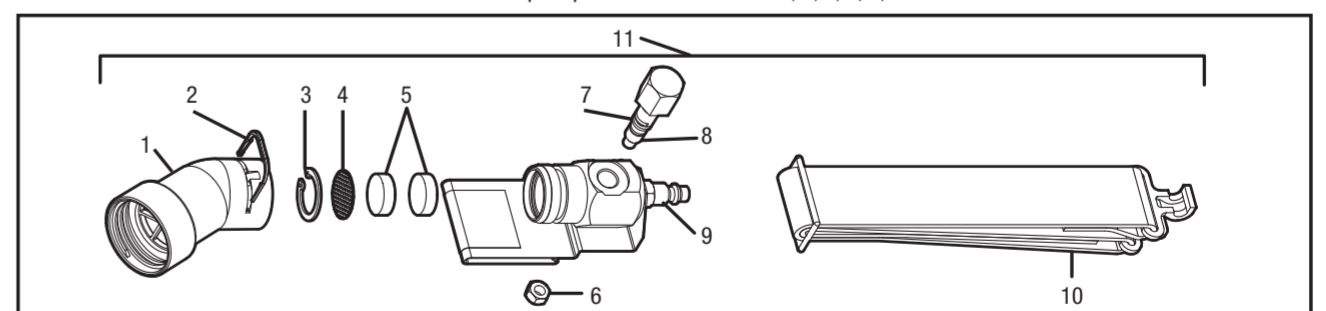

Fig. 4: V-300
3M™ V-300 Illustrated Parts List (Fig. 4)
After extended use, the two disks (item 5, Fig. 4 and 5) inside of the low pressure adapter may become dirty from contaminants in the compressed air supply. They may be replaced by removing the retaining ring with the proper tool.